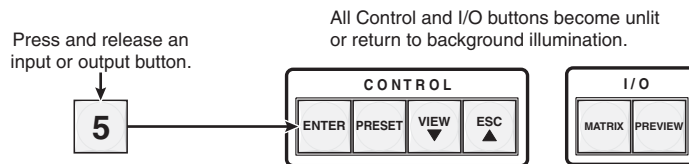

Figure 3-53 — Exiting Serial Port Configuration mode
4. Press and release an input or output button to exit the serial port configuration mode (figure 3-53).